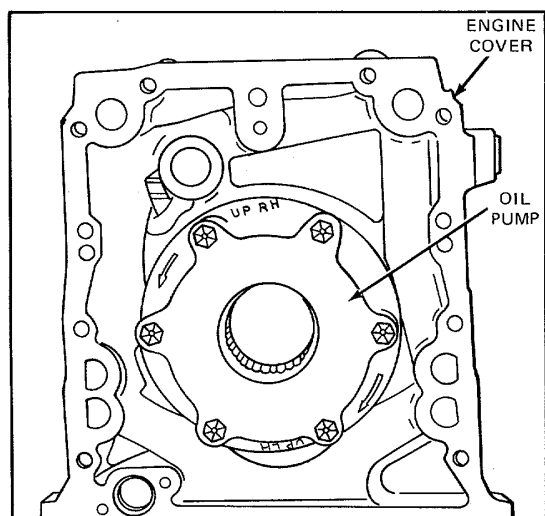

Figure 1. Typical Right-Hand Rotation
6. Remove the six bolts and lock- washers (if used) which attach the pump assembly to the engine front cover (Fig. 1) and withdraw the pump assembly from the cover.